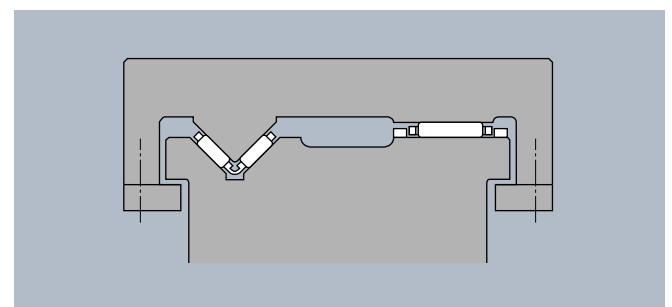

**Fig. 2**
Theoretically the linear flat roller bearing moves by 1/2 of table moving stroke in same direction as the table moving direction. The relationship of bed length ( $L$ ) - stroke ( $S$ ) - cage length ( $L_1$ ) can be expressed in **formula (1)**. (**Fig. 2**)